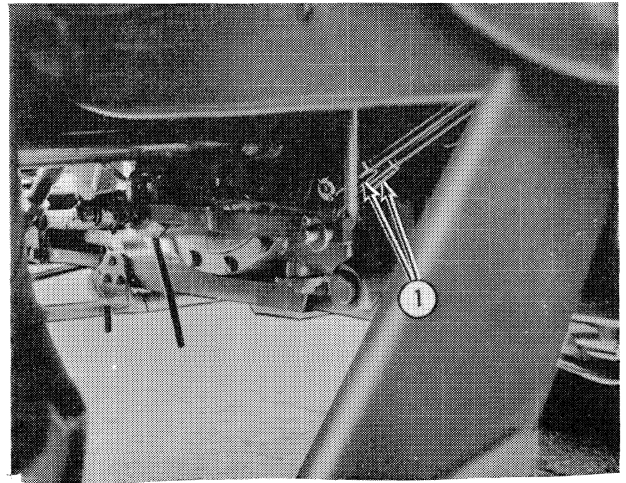

Figure 10
Brake Pedals: See SE 3501 for operation and adjustment. Adjust the pedals by adjusting the brake rod clevises (1), Figure 10.